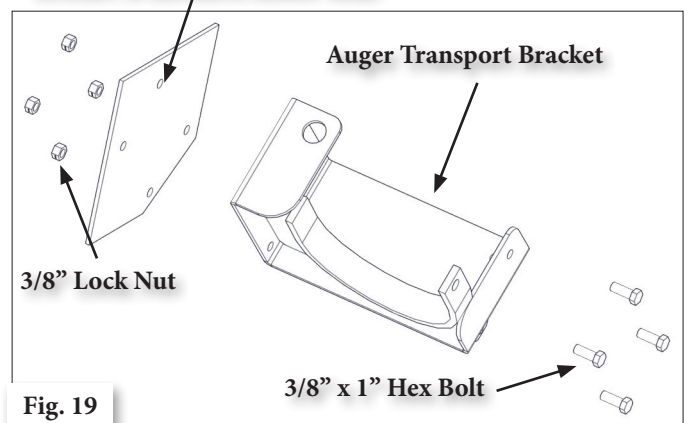

Fig. 19
- Using the Auger Transport Bracket as a guide, drill (4) 13/32" holes into the side of the gravity wagon.
- Attach the Auger Transport Bracket and Reinforcing Bracket using (4) 3/8" x 1" Hex Bolts and (4) 3/8" Lock Nuts. Fig.19.